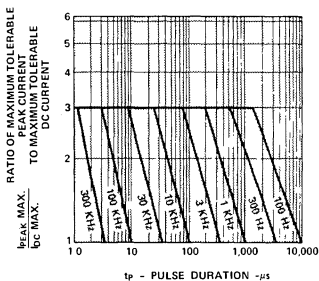

Figure 5. Maximum Tolerable Peak Current vs. Pulse Duration. ( $I_{DCMAX}$  as per MAX Ratings)
1. See Figure 5 (Red), 10 (Yellow), or 15 (Green) to establish pulsed operating conditions.